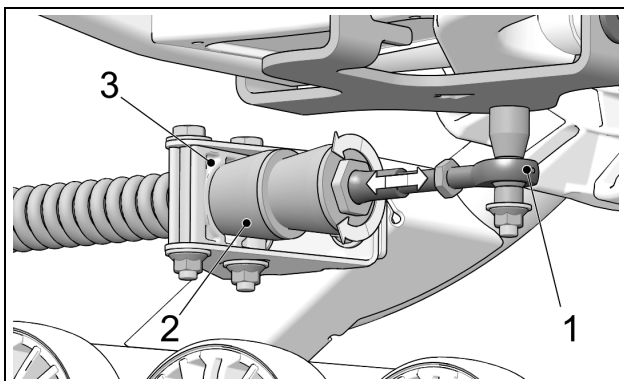

Figure 17
- Turn stabilizing arm nut to adjust length of rod end (1) and get rubber cone (2) to apply light pressure on anti-rotation retainer (3). See Figure 17.